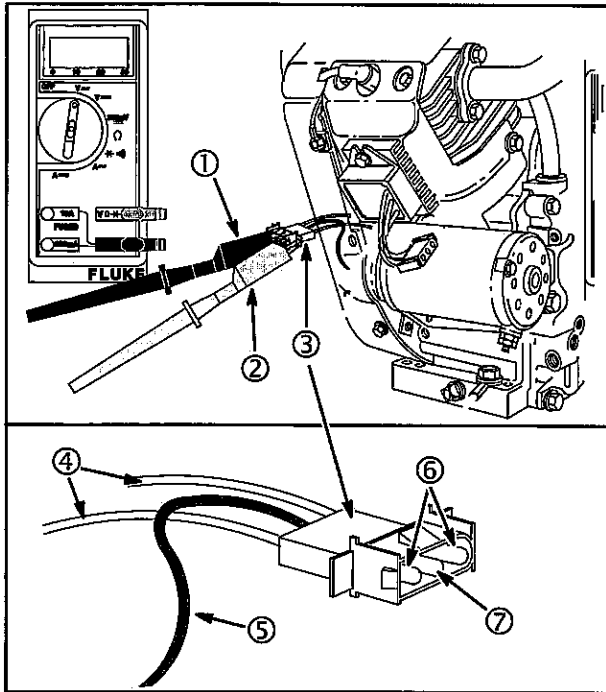

Fig. 31
4. Attach RED (2) and BLACK (1) test lead probes to the YELLOW wire (4) AC output terminals (6), of the connector (3), as shown in Fig. 31. (Meter test clip leads may be attached to either AC output terminal.)
4. Attach RED test lead probe (2) to the RED wire (5) DC output terminal (7), of the connector, Fig. 31.
5. Attach BLACK test lead probe (1) to negative battery terminal.